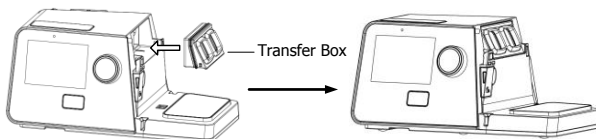

Fig. 18-3
(3) **Returning the Transfer Box:** As shown in Fig. 18-3.